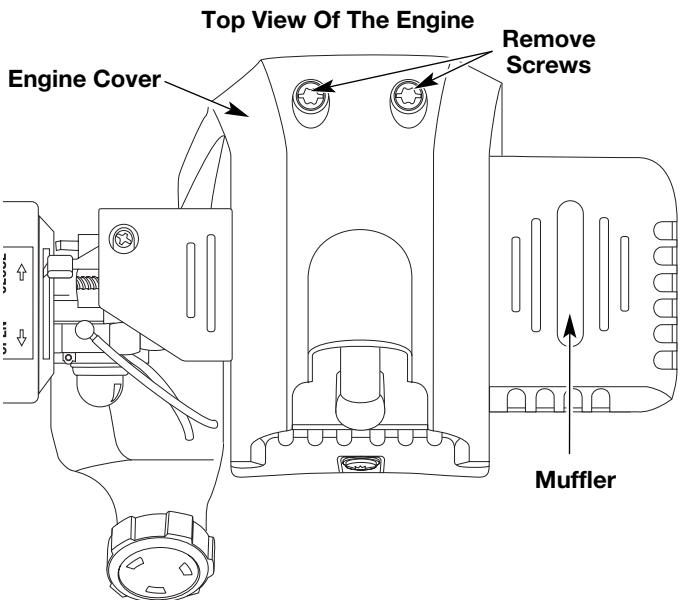

Fig. 23
1. Remove the two (2) screws on top of the engine cover with a Flat-head or T-25 Torx screwdriver (Fig. 23).
3. Replace cracked, fouled or dirty spark plug. Set the air gap at 0.025 in. (0.635 mm.) using a feeler gauge (Fig. 23).